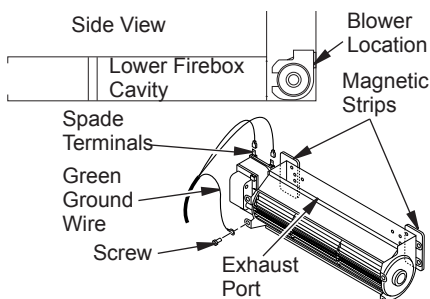

Figure 25 - Blower Model BK
1. Attach the power cord to the blower motor by firmly pushing the two female terminals at the end of the power cord onto the two spade terminals on the blower motor (see Figure 25).
2. Attach green ground wire from power cord to blower housing using screw provided (see Figure 25). Tighten screws securely.
3. Place the blower against the lower rear wall of the firebox outer wrapper with the exhaust port directed upward. The blower will fit inside the back opening and be held in position against the back wall by the magnets (see Figure 25, page 18).